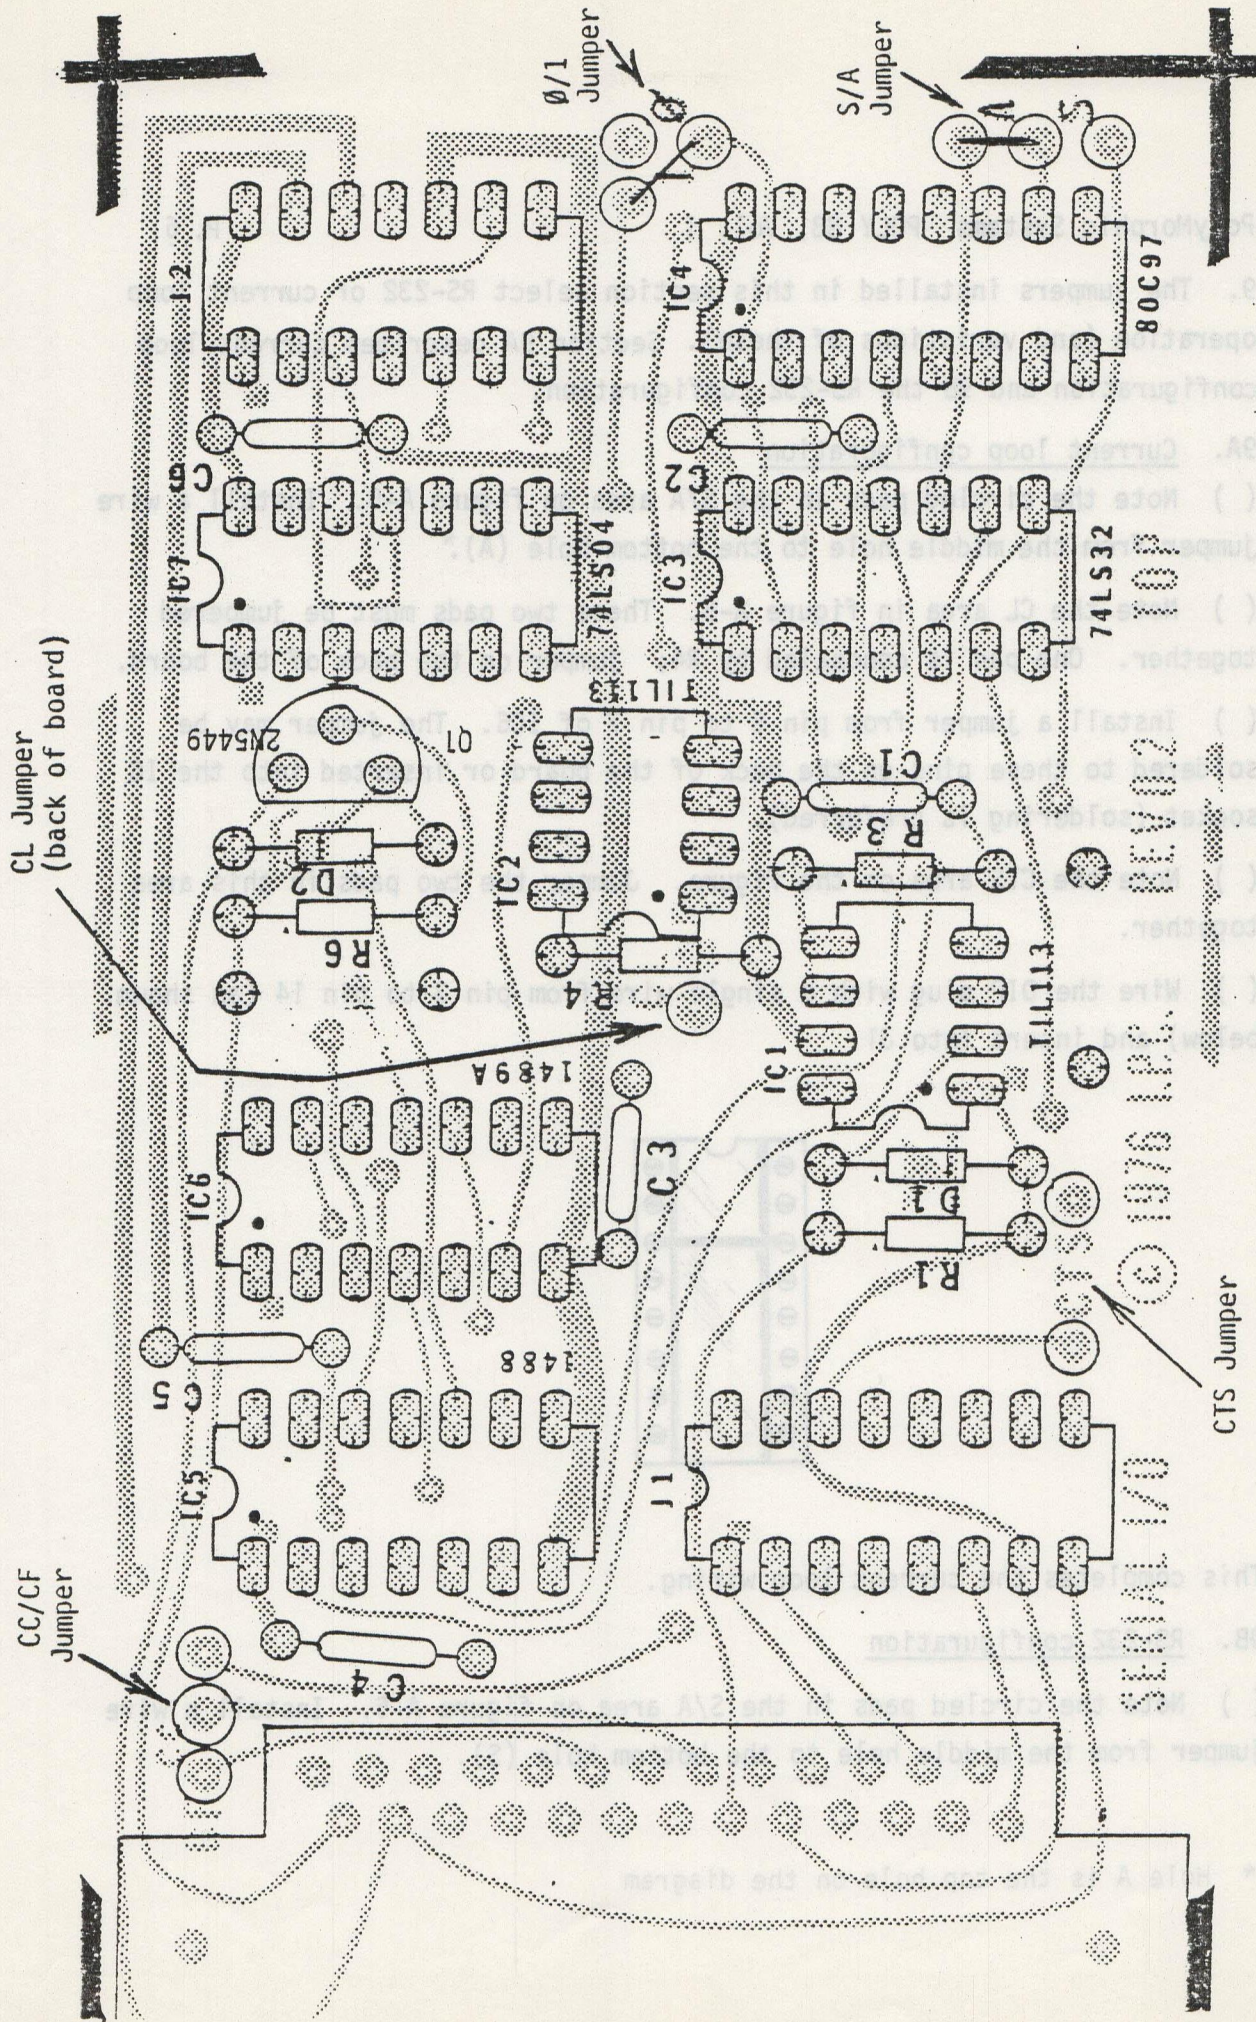

Figure A-5
1. Install all resistors; refer to the parts layout (fig. A-5).
() Note the circled pads in the S/A area on figure A-5. Install a wire jumper from the middle hole to the bottom hole (A).*
() Note the CL area in figure A-5. These two pads must be jumpered together. One pad is concealed by R4; jumper on the back of the board.
() Note the circled pads in the S/A area on figure A-5. Install a wire jumper from the middle hole to the bottom hole (S).